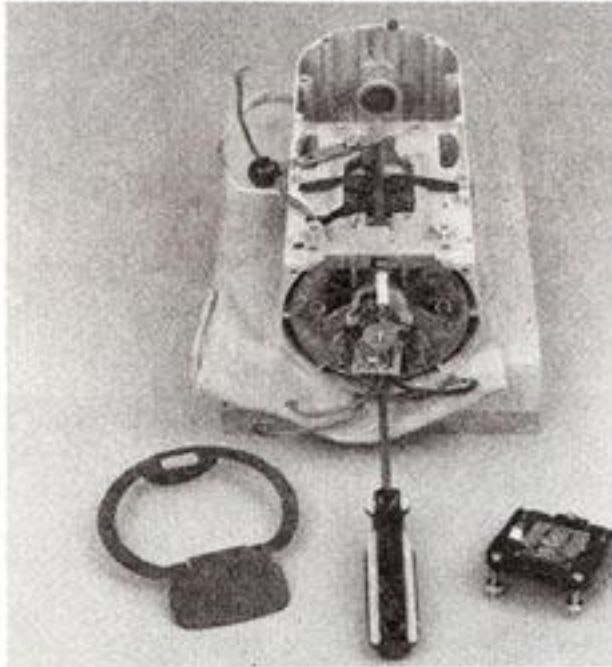

Fig. 19
- B. The phase control unit can now be disassembled from the bearing bracket, if need be, by unscrewing the #4-40 x 1/4" pan head screw (Fig. 19 & 20).